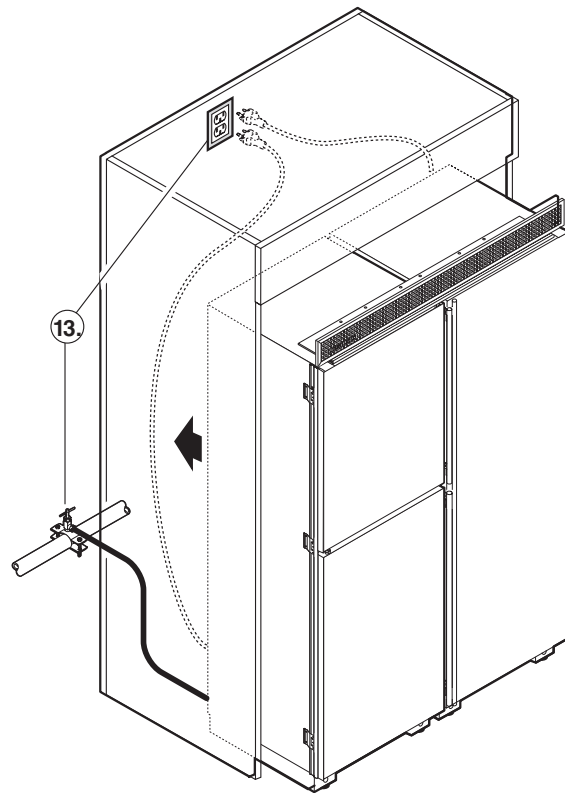

Figure 30
## 13. Figure 30, 31: Connect the appliances:
- to the water supply if the appliance is equipped with an IceMaker. See "IceMaker, Water Connection," **Figure 30**.